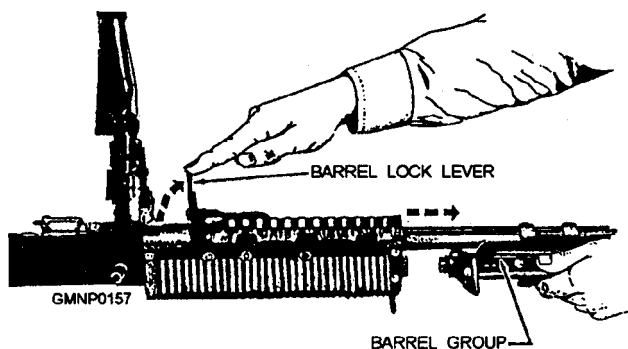

Figure 3-83.—Removing the barrel assembly.
The barrel assembly consists of the barrel, the flash suppressor, the front sight bipped assembly, and the gas cylinder. To remove the assembly, raise the barrel lock lever to the vertical position and remove the barrel assembly by pulling it to the front, as shown in figure 3-83.
1. Make sure the barrel lock lever is in the vertical position, as shown in figure 3-83. Insert the rear of the barrel under the barrel cover and align the gas cylinder nut with its recess in the forearm assembly. Lower the barrel lock lever.